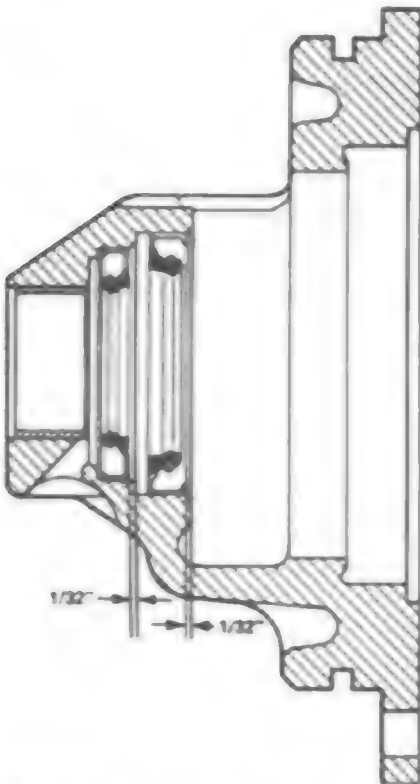

Fig. 81 - On models not equipped with torque amplifier, install oil seals in pto and clutch shaft bearing cage as shown.
Unbolt and remove the release sleeve carrier (2). Remove pto drive shaft and bearing assembly (Fig. 75). Unbolt and remove transmission top cover and shift cam assembly. There are two shift cam rollers on top of shift rail. Take care not to lose the rollers. On models equipped with torque amplifier, withdraw TA unit (Fig. 65). On all models without torque amplifier, remove the pto and clutch shaft bearing housing (Fig. 81). Drive roll pin from rear shift fork making sure the pin clears the synchronizer, remove the other roll pin and remove shift rail at the rear. Remove snap ring (1 - Fig. 76) between second and fourth gears, unbolt rear bearing cage and slide main shaft out the rear. This will allow removal of the thrust washers, second gear, synchronizer and first gear. On models equipped with torque amplifier, remove snap ring (6 - Fig. 72) and clutch disc carrier (5) from front end of gear (2), then remove gear (2) with bearing (4) and synchronizer. On models without torque amplifier, remove the other gears, synchronizer and clutch shaft. Refer to Fig. 77 for location of gears and synchronizers on the main shaft.
At this time, all parts of the speed transmission can be inspected and parts renewed as necessary. Refer to Figs. 81